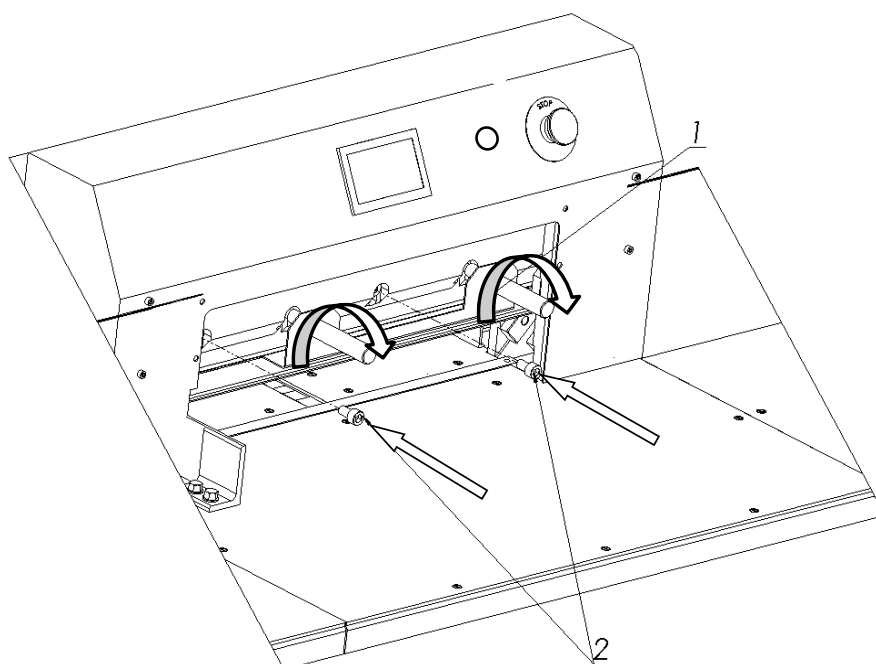

Figure 31.
8.1.2.4 Pre-attach the knife to the cutter bar by turning both transporting handles 1 to the right (fig. 31).
8.1.2.5 Install the fastening screws 2 (fig. 31).
8.1.2.6 Unscrew both transport lugs 1 (figure 31) and replace them with the mounting
8.1.2.7 Slightly unscrew the first screw on the left side of the clamping screw 2 (Fig. 31), taking care that the screw head does not protrude above the knife beam sliding plane.
8.1.2.18. Firmly tighten the first screw on the left side of the knife. 2 (Fig. 31).